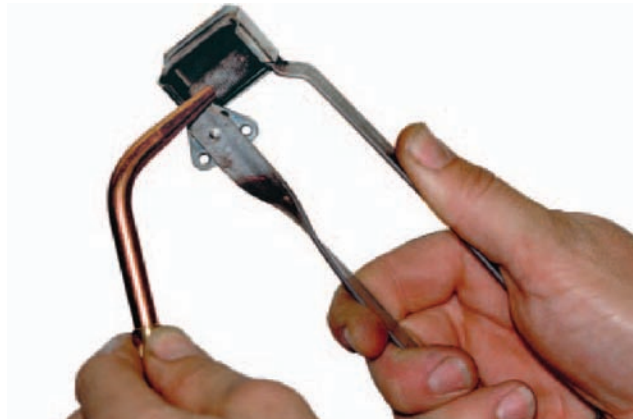

FIGURE 3-60 Correct position for holding a sparklighter.
- Using a sparklighter, light the torch. Hold the lighter near the end, Figure 3-60, of the tip but not covering the end, Figure 3-61.